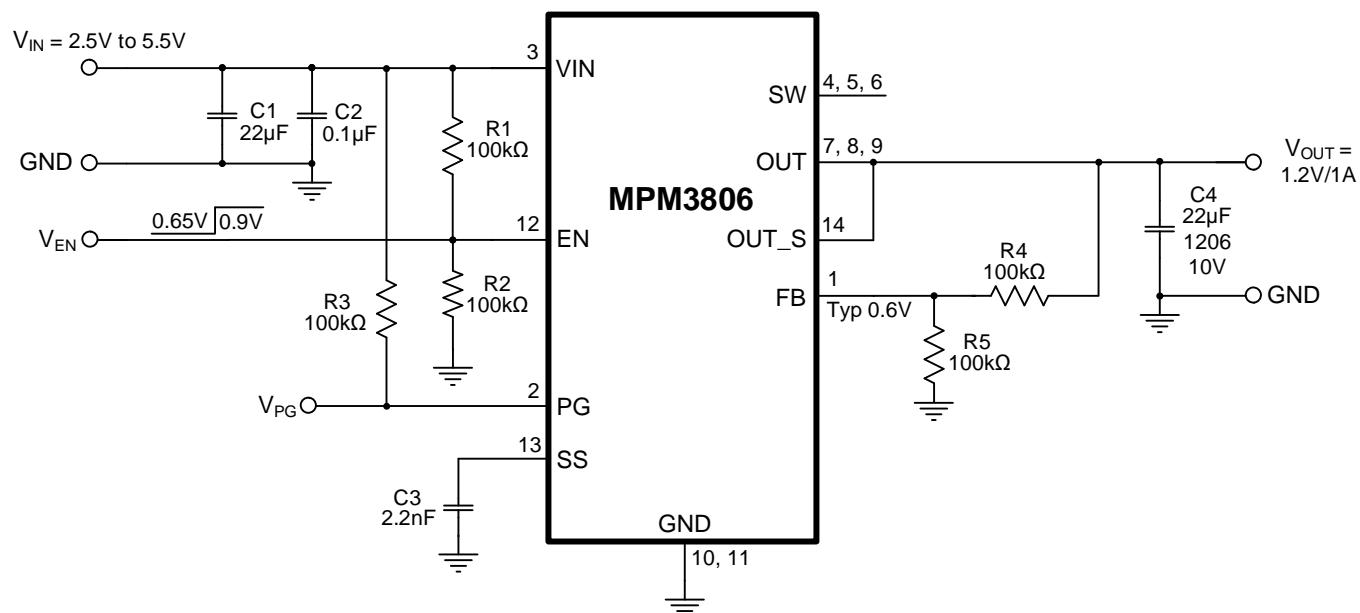

Figure 11: Typical Application (Adjustable Output, $V_{OUT} = 1.2V$)
11) The recommended PCB layout is based on Figure 11 on page 25.